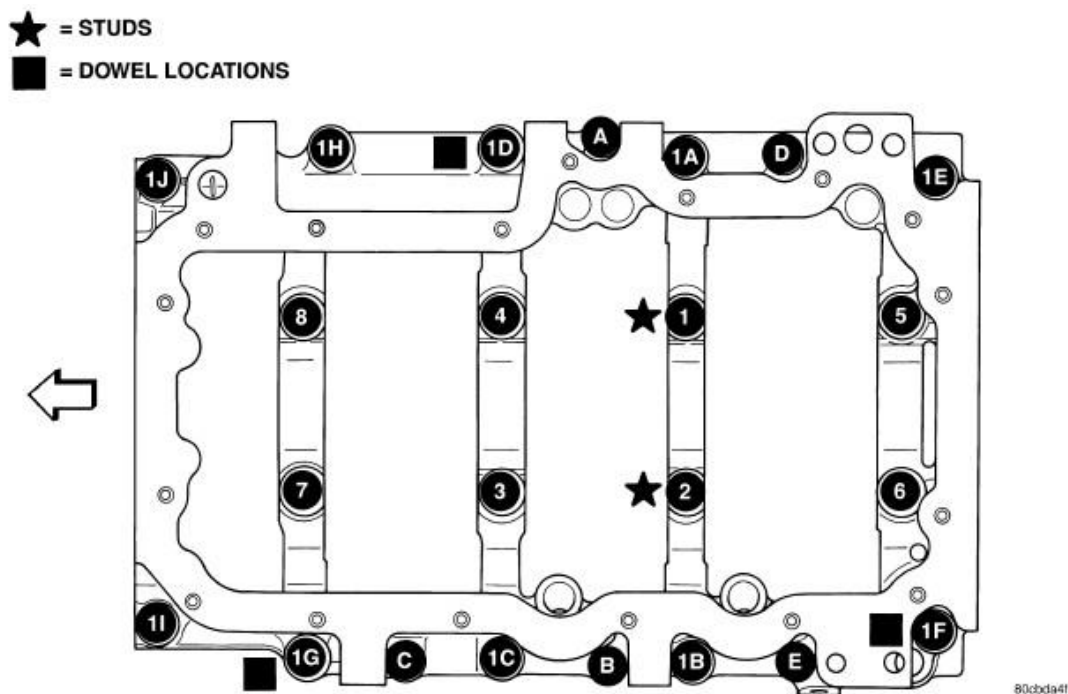

Fig. 110: Identifying Bed Plate Tightening Sequence With Stud & Dowel Location
6. Install the bed plate retaining bolts, making sure to place the stud bolts in the correct location, Torque the bolts in the sequence shown in **Fig. 110**.